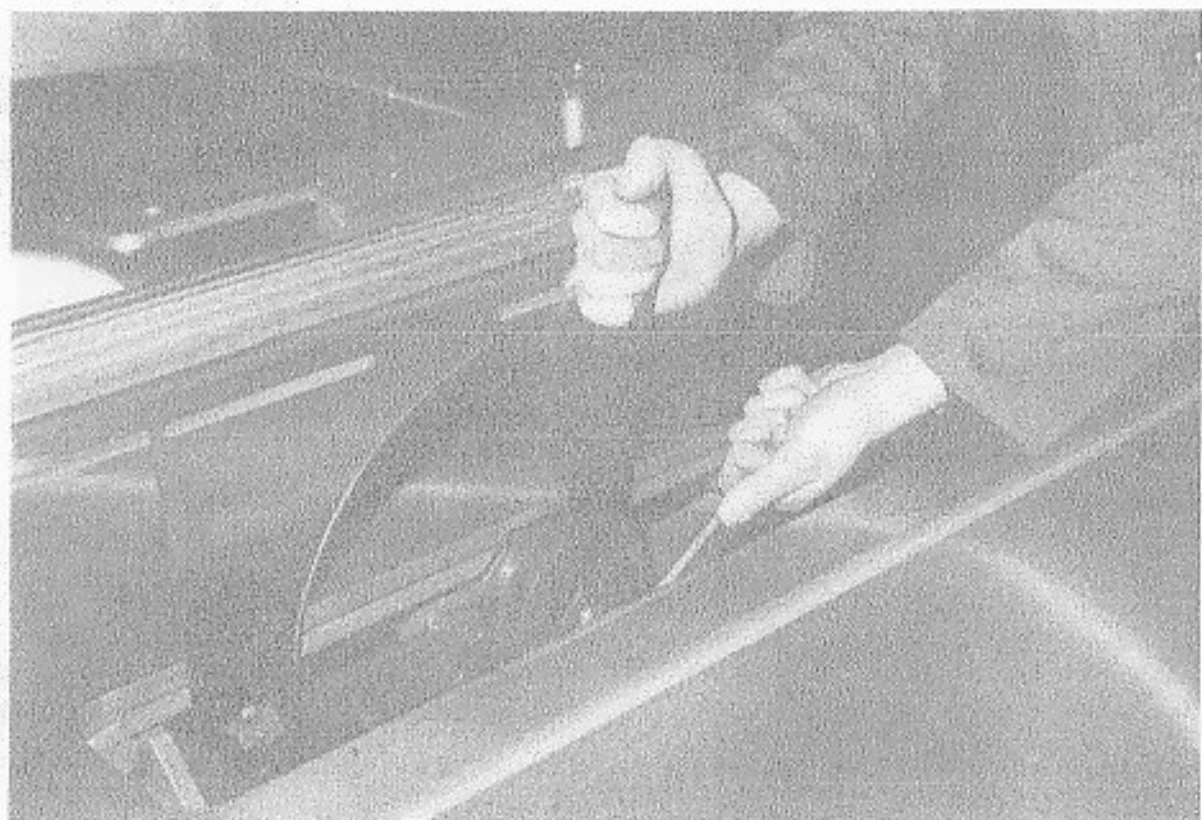

FIG. 13
- e) Locate 8mm allen key (supplied) in main saw spindle as shown FIG. 13, then remove spindle nut (left hand thread) with spanner (supplied) and front saw flange.